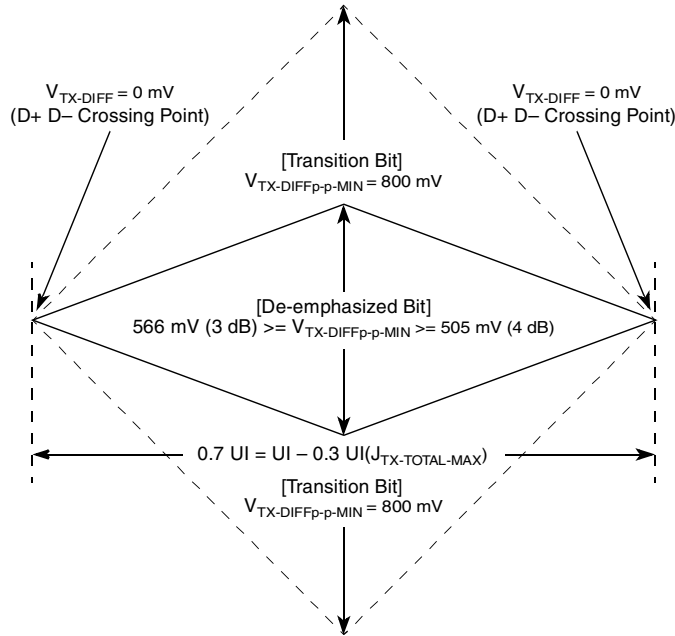
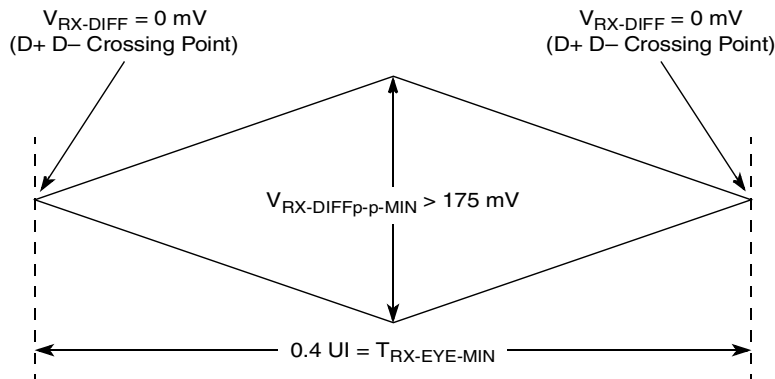
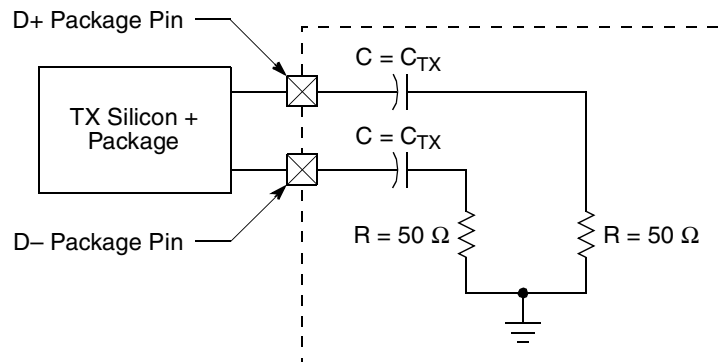

Figure 46. Minimum Transmitter Timing and Voltage Output Compliance Specifications
Figure 47. Minimum Receiver Eye Timing and Voltage Compliance Specification
Figure 48. Compliance Test/Measurement Load
2. Specified at the measurement point into a timing and voltage compliance test load as shown in Figure 48 and measured over any 250 consecutive Tx UIs. (Also refer to the transmitter compliance eye diagram shown in Figure 46.)
4. The transmitter input impedance will result in a differential return loss greater than or equal to 12 dB and a common mode return loss greater than or equal to 6 dB over a frequency range of 50 MHz to 1.25 GHz. This input impedance requirement applies to all valid input levels. The reference impedance for return loss measurements is 50 Ω to ground for both the D+ and D– line (that is, as measured by a vector network analyzer with 50- Ω probes, see Figure 48). Note that the series capacitors, C_{TX} , is optional for the return loss measurement.
5. Measured between 20%–80% at transmitter package pins into a test load as shown in Figure 48 for both V_{TX-D+} and V_{TX-D-} .
The Tx eye diagram in Figure 46 is specified using the passive compliance/test measurement load (see Figure 48) in place of any real PCI Express interconnect + Rx component. There are two eye diagrams that must be met for the transmitter. Both diagrams must be aligned in time using the jitter median to locate the center of the eye diagram. The different eye diagrams differ in voltage depending on whether it is a transition bit or a de-emphasized bit. The exact reduced voltage level of the de-emphasized bit is always relative to the transition bit.
2. Specified at the measurement point and measured over any 250 consecutive UIs. The test load in Figure 48 should be used as the Rx device when taking measurements (also refer to the receiver compliance eye diagram shown in Figure 47). If the clocks to the Rx and Tx are not derived from the same reference clock, the Tx UI recovered from 3500 consecutive UI must be used as a reference for the eye diagram.
4. The receiver input impedance will result in a differential return loss greater than or equal to 10 dB with the D+ line biased to 300 mV and the D– line biased to –300 mV and a common mode return loss greater than or equal to 6 dB (no bias required) over a frequency range of 50 MHz to 1.25 GHz. This input impedance requirement applies to all valid input levels. The reference impedance for return loss measurements for is 50 Ω to ground for both the D+ and D– line (that is, as measured by a vector network analyzer with 50- Ω probes, see Figure 48). Note that the series capacitors, C_{TX} , is optional for the return loss measurement.
The Rx eye diagram in Figure 47 is specified using the passive compliance/test measurement load (see Figure 48) in place of any real PCI Express Rx component. In general, the minimum receiver eye diagram measured with the compliance/test measurement load (see Figure 48) is larger than the minimum receiver eye diagram measured over a range of systems at the input receiver of any real PCI Express component. The degraded eye diagram at the input receiver is due to traces internal to the package as well as silicon parasitic characteristics that cause the real PCI Express component to vary in impedance from the
compliance/test measurement load. The input receiver eye diagram is implementation specific and is not specified. Rx component designer should provide additional margin to adequately compensate for the degraded minimum receiver eye diagram (shown in Figure 47) expected at the input receiver based on an adequate combination of system simulations and the return loss measured looking into the Rx package and silicon. The Rx eye diagram must be aligned in time using the jitter median to locate the center of the eye diagram.
The reference impedance for return loss measurements is $50\ \Omega$ to ground for both the D+ and D- line (that is, as measured by a Vector Network Analyzer with $50\ \Omega$ probes—see Figure 48). Note that the series capacitors, $C_{PEACCTX}$, are optional for the return loss measurement.
The AC timing and voltage parameters must be verified at the measurement point, as specified within 0.2 inches of the package pins, into a test/measurement load shown in Figure 48.